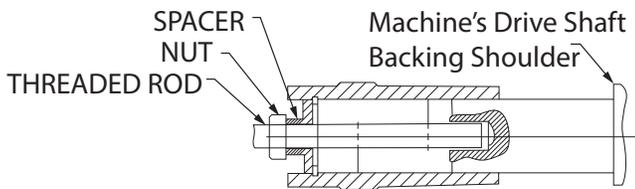
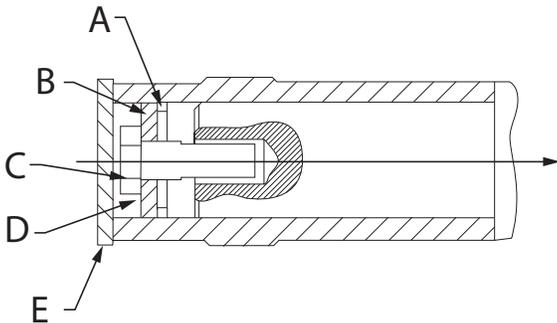

Figure 4 - Threaded Rod and Nut Assembly
Figure 5 - Finished Assembly
<p align="center">For 3-Piece Coupled Input Reducers (Reference Figure 1)</p>	<p align="center">For Clamp Collar Input Reducers (Reference Figure 4)</p>
All shaft mounted gearboxes are furnished with A) Retaining Ring B) Keeper plate C) Retaining Bolt D) Spring Washer E) Dust Cap and Anti-Seize as shown in the finished assembly, Figure 5. Apply the anti-seize onto the customer shaft before installing reducer onto the shaft. The gearbox is pulled onto the shaft by means of a threaded rod and nut assembly as shown in Figure 4 below. The threaded rod and spacer are not supplied. The threaded rod (M) is specified in Table 5 or 6. After the gearbox has been pulled completely onto the machine shaft firmly against the machine shaft's backing shoulder, it must be locked in place with the retaining bolt tightened to the tightening torque shown in Table 4.